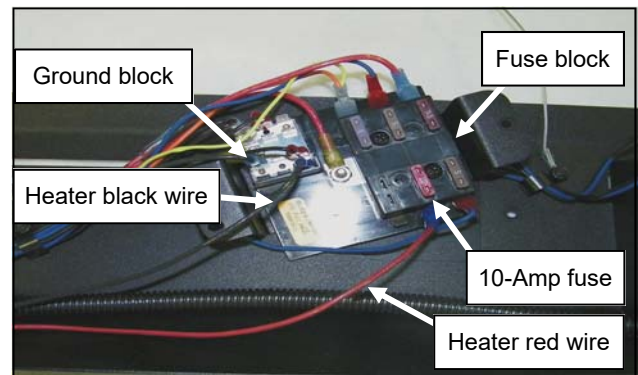

Fig. 3.3
- 3.3 Remove and retain the three #10-32 screws and nuts holding the fuse block bracket to the console panel. Connect the push-on terminals of the Heater harness to the fuse block terminals as shown. Connect the black wire to any terminal of the ground block, and the red wire to the fuse terminal indicated. See Figure 3.3.